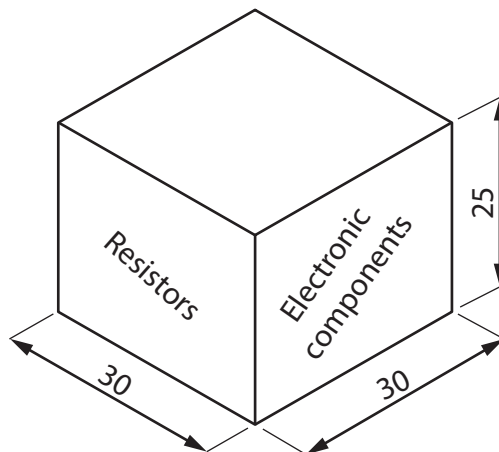

Figure 8
- 5 Figure 8 shows a design solution for an electronic components tidy case together with some additional information.